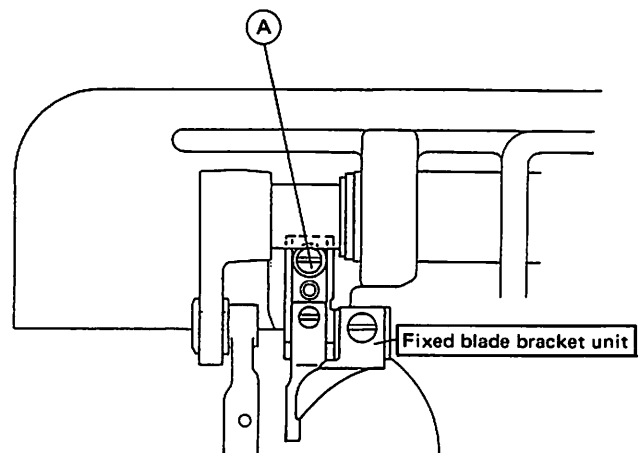

Fig. 4
(1) As shown in Fig. 4, install the fixed blade bracket unit with the hook positioner dismantled, and then fix with the screws (A).